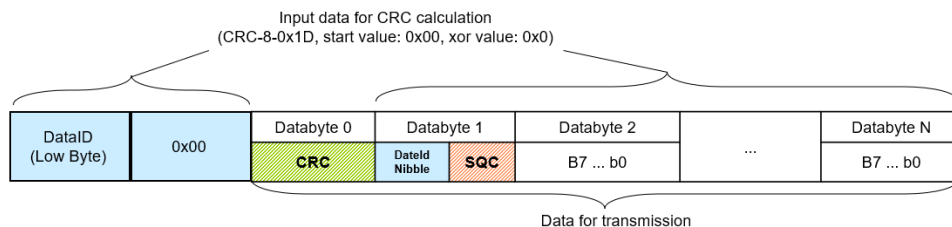

Figure 3.3. Layout of the protected message including control data (CRC, SEQ) with explicit transmission of data ID nibble (`dataIdMode=3`)
- ▶ **Explicit transmission of data ID nibble** (`dataIdMode=3`): Both bytes of the 16-bit data ID are attached to the safety data for CRC calculation, but the low nibble of the high byte of the data ID is explicitly transmitted. Only 12 bits are used in this 16-bit data ID and the high nibble of the high byte is set to 0. The bit-offset of the data ID nibble value within a transmitted signal group is configurable, but must be aligned with respect to nibbles. To be able to use this data ID inclusion mode together with the data ID inclusion mode **Both bytes**, the CRC is calculated over the low byte of the data ID and the high byte which is set to 0. For more information on explicit transmission of data ID nibbles, see [Figure 3.3, “Layout of the protected message including control data \(CRC, SEQ\) with explicit transmission of data ID nibble \(`dataIdMode=3`\)”](#). The constraints specified in ASR_E2EPW020377 must be adhered to.
Figure 3.3, “Layout of the protected message including control data (CRC, SEQ) with explicit transmission of data ID nibble (`dataIdMode=3`)” shows the layout of the AUTOSAR E2E Profile 1 with a CRC offset of 0 bits and a sequence counter/alive counter offset of 8 bits and a data ID nibble offset of 12 bits as used for `dataIdMode=3`.